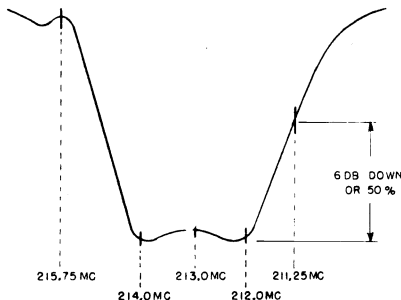

Fig. 6 Response Curve
10. Adjust L103 on tuner, for proper bandpass, and the bottom of Z300 correcting the tilt for the response curve as shown in Fig. 6, with markers as indicated. It may be necessary to retouch the IF transformers T302, T301 and T300 to the proper response curve. The top adjustment of Z300 is the 41.25 mc. sound trap and should be adjusted so that the 215.75 mc. fall as shown in Fig. 6.
11. Set the fine tuning control to mid-range (the red mark on the fiber disc on the front of the tuner should be in a vertical plane with respect to the fine tuning shaft), and adjust L101 (See Fig. 1) so that the video carrier marker (211.25 mc.) falls at the 50% point on the curve (See Fig. 6).